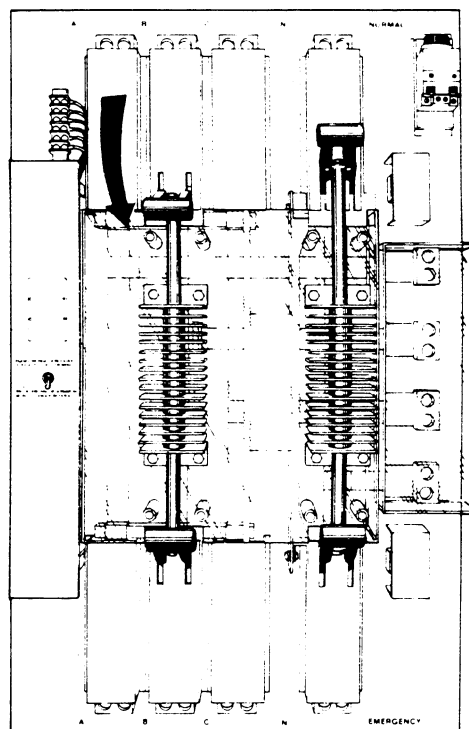

FIGURE 5.
2. Pull the top power handle down, as shown in Figure 5, disconnecting the power poles from the normal power source.